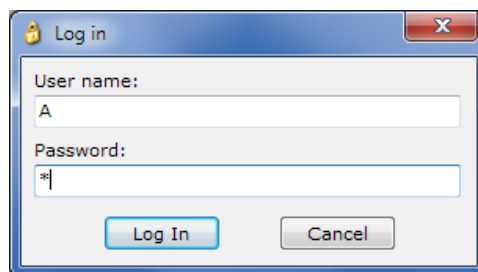

Figure 6-1. Log In Screen
3. Enter the username and password when prompted. The default username is "A" and default password is "A". See Figure 6-1.